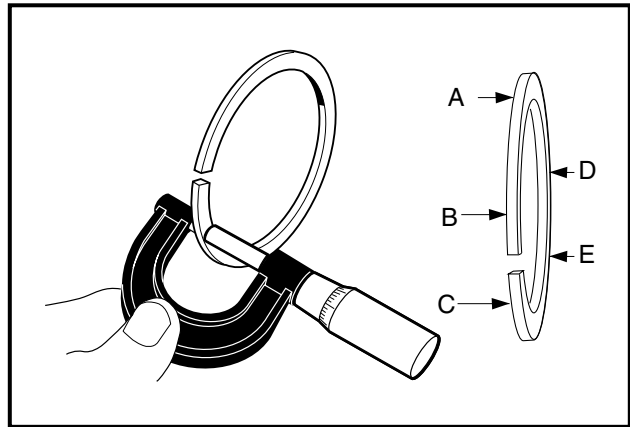

Figure 13-53 Measure Piston Ring Thickness
4. Using a micrometer, measure the thickness of both piston rings at several points around the rings (**Figure 13-53, Page 13-28**).